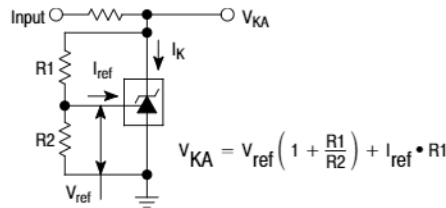

Figure 2. Test Circuit for $V_{KA} > V_{ref}$
- The dynamic impedance Z_{KA} is defined as: $|Z_{KA}| = \frac{\Delta V_{KA}}{\Delta I_K}$. When the device is programmed with two external resistors, R1 and R2, (refer to Figure 2) the total dynamic impedance of the circuit is defined as: $|Z_{KA}'| = |Z_{KA}| \left(1 + \frac{R1}{R2} \right)$
6. The dynamic impedance Z_{KA} is defined as $|Z_{KA}| = \frac{\Delta V_{KA}}{\Delta I_K}$. When the device is programmed with two external resistors, R1 and R2, (refer to Figure 2) the total dynamic impedance of the circuit is defined as: $|Z_{KA}'| = |Z_{KA}| \left(1 + \frac{R1}{R2} \right)$